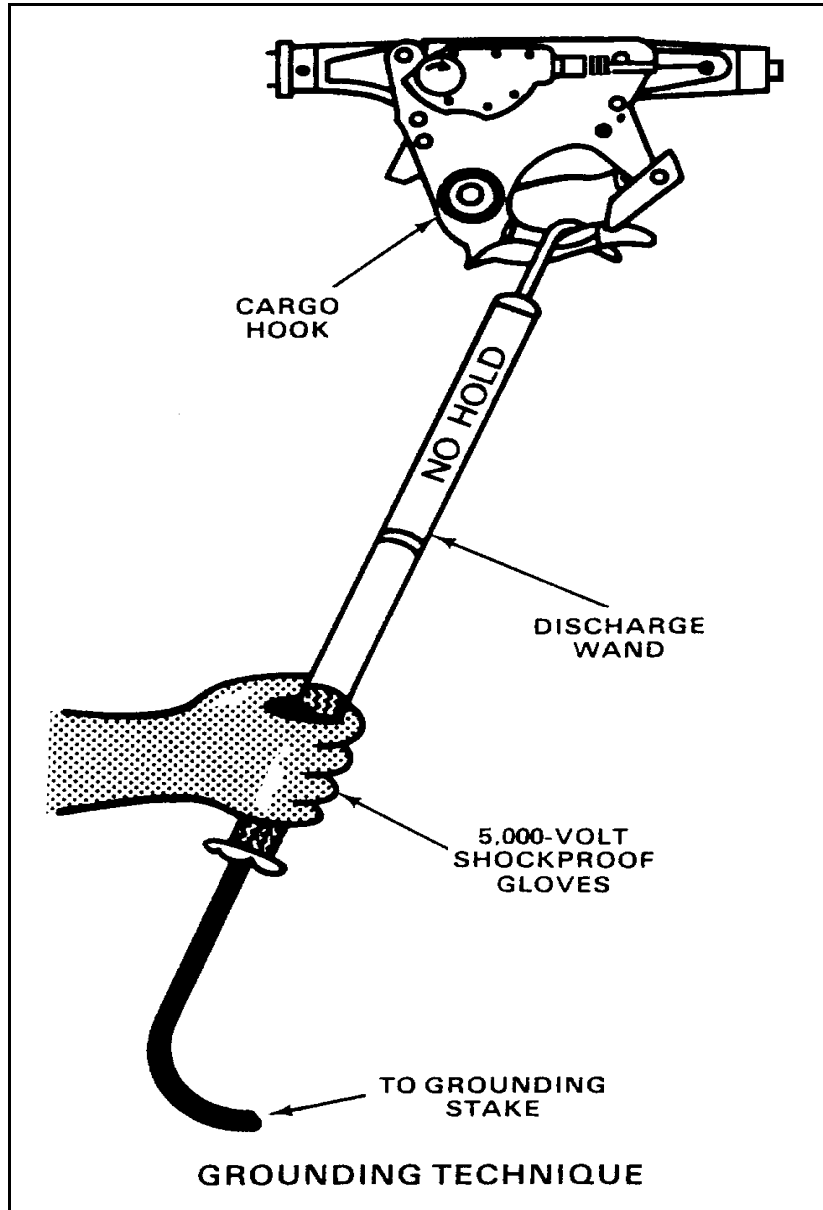

Figure 18-5. Grounding technique
- To avoid the possibility of a static electric shock, ground crewmen use static discharge wands (field expedient or manufactured) and grounding stakes to ground the cargo hook. Since the wand channels the electricity from the helicopter directly into the ground, the ground crewman will not be shocked when he connects the apex fitting to the cargo hook as shown in See Figure 18-5, page 18-6.
- When the helicopter is in correct position for hook-up, the static ground man grounds the aircraft by contacting the static wand to the cargo hook as shown in Figure 18-5, page 18-6, and maintains continuous grounding contact. The hook-up man then places the apex fitting on the cargo hook and ensures that the hook is properly closed.